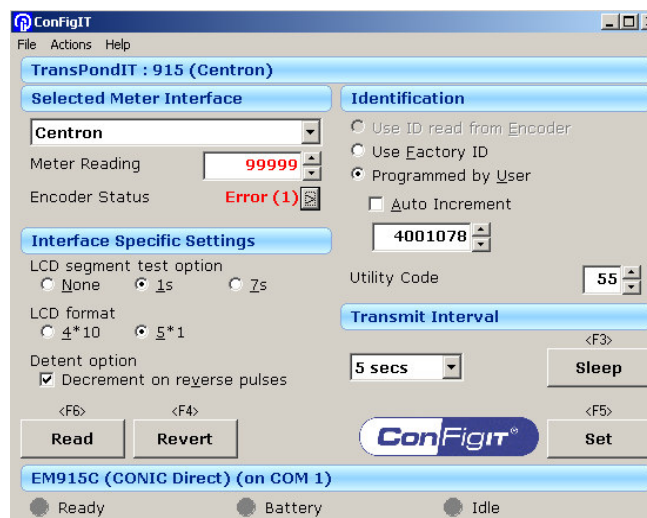

Figure 22: TransPondIT Configuration Screen
- 5) The screen changes as shown in Figure 22